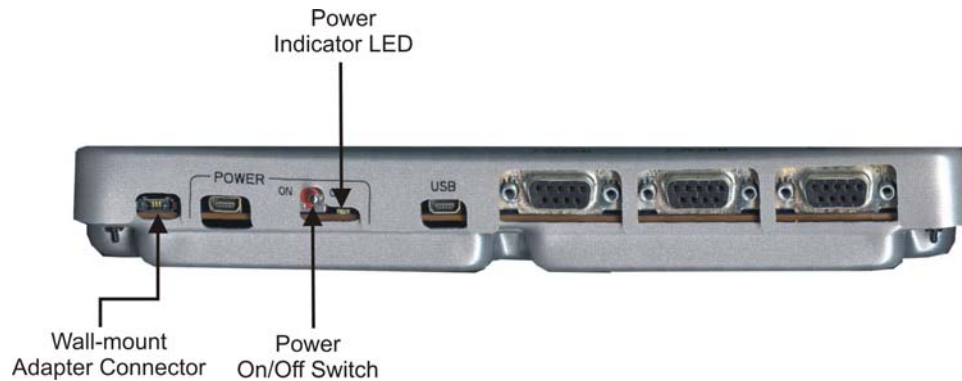

Figure 2-7: W24 Developer's Kit Wall Mount Adapter Connector
1. Connect the Wall mount adapter to the Power Adapter connector (J230) (Figure 2-7)